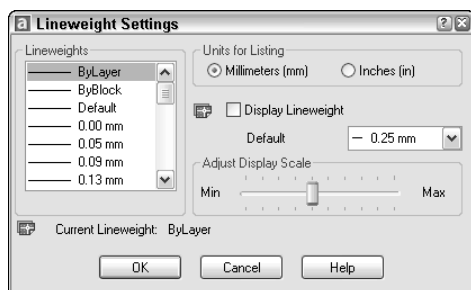

Figure 11-9: The Lineweight Settings dialog box lets you format how lineweights are measured and displayed.
- ♦ By default, lineweights are measured in millimeters. You can format lineweights by choosing Format ⇨ Lineweight. AutoCAD opens the Lineweight Settings dialog box, shown in Figure 11-9. The Lineweights section lists available lineweights. Choose a default lineweight from the Default drop-down list. The default is 0.01 inch or 0.25 mm. The Adjust Display Scale slider determines how lineweights are displayed on the Model tab. Adjust this setting if you use several closely related lineweights but can't distinguish them on your screen. The Display Lineweight check box turns the display of lineweights on and off. (See the next bullet for an easier way to do this.)